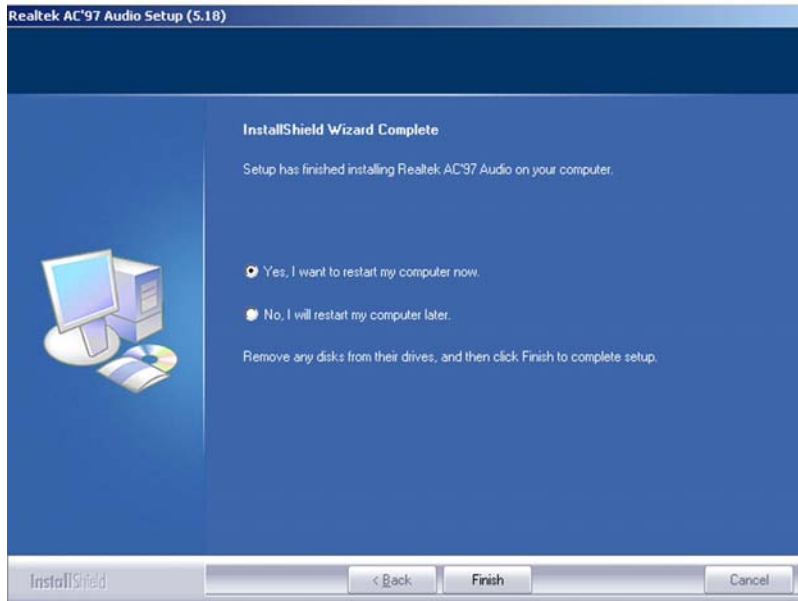

Figure 6-19: Audio Driver Installation Complete
Step 9: After the driver installation process is complete, a confirmation screen shown in **Figure 6-19** appears.
Step 10: The confirmation screen shown in **Figure 6-19** allows you to restart the computer immediately after the installation is complete or to restart the computer later. For the settings to take effect the computer must be restarted. Once you have decided when to restart the computer, click the **"FINISH"** button.